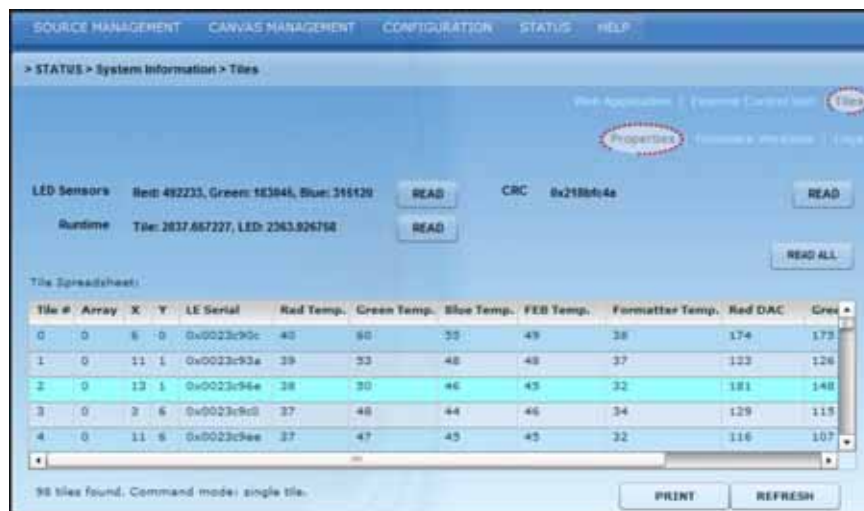

Figure 3-47 Tile Properties
3. Select **Tiles** and **Properties** from the available screen selections (**Figure 3-47**).
4. The **Tiles** properties screen appears (**Figure 3-47**) and provides the user with system status information for each of the tiles used in the array.
5. Users are able to gain information on either the brightness values of the LED sensors, runtime values and CRC values of the selected tile by selecting a **Tile #** from the **Tile Spreadsheet** section (**Figure 3-47**) and by clicking the **Read** buttons above the spreadsheet. **NOTE:** Select **READ ALL** to import each of the features simultaneously.